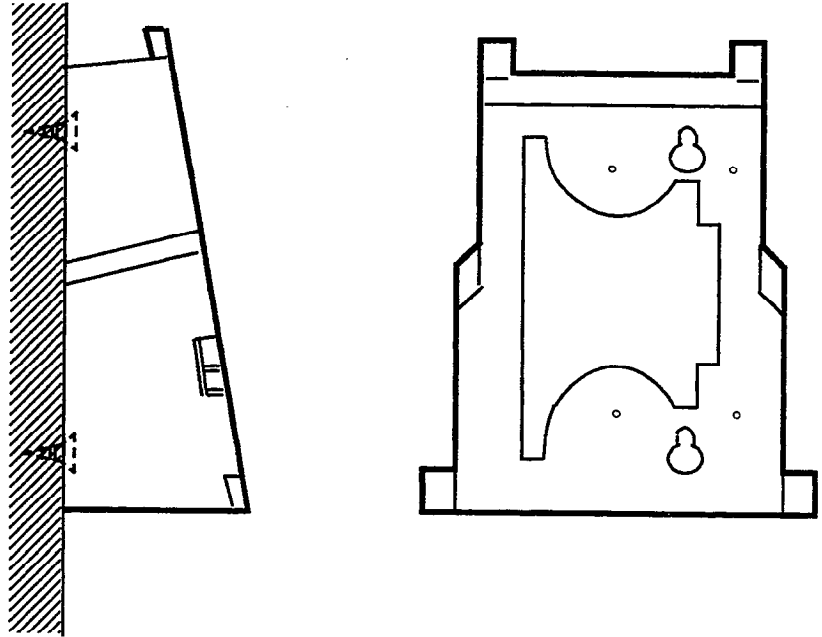

Figure 4-15 Fastening the WMU-W (BK)/(SW) Unit to the Wall
4. Fasten the optional WMU-W (BK)/(SW) Unit to the wall using the two provided screws. Refer to Figure 4-15 - Fastening the WMU-W (BK)/(SW) Unit to the Wall.